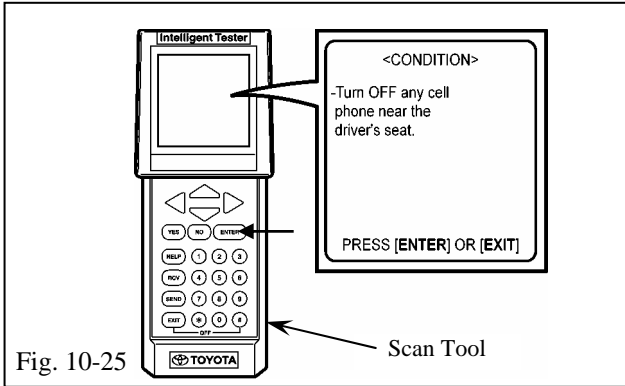

Fig. 10-25
- (z) At the CONDITION screen, press the “ENTER” button. (Fig. 10-25)